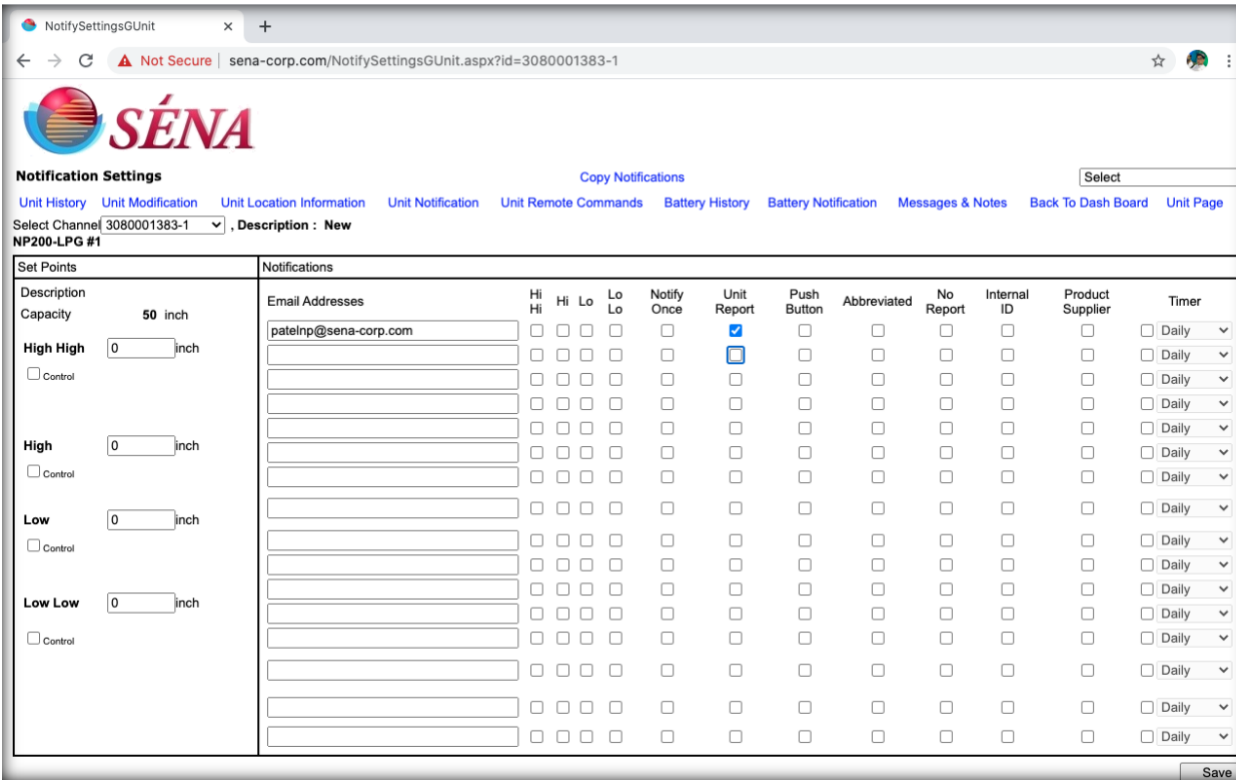

Figure 9
10) For Report Notification (Email alerts) click on hyper link “Unit Notification”. You will navigate to Unit notification Page. Figure 9. (only Admin will have the access of this page)